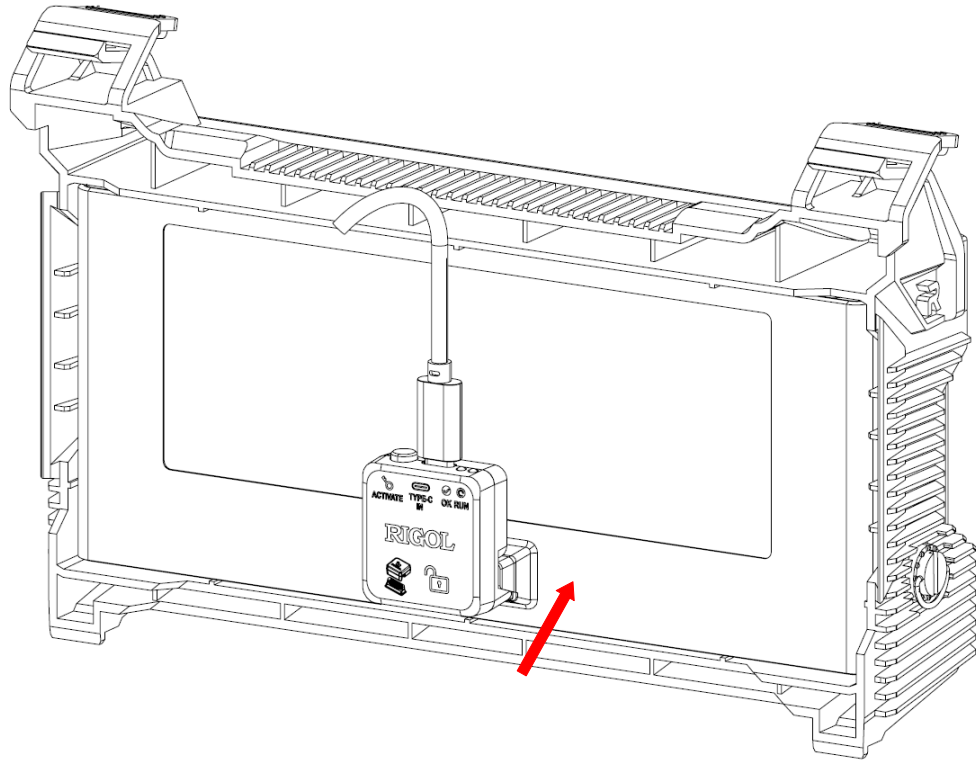

Figure 6.3 Connect the Activator
1. Connect the activator to the battery holder connector correctly as shown in Figure 6.3.
2. Use the USB Type-C cable to connect an adaptor (12 V/3 A) that conforms to the Power Delivery (PD) 3.0 Specification and then apply the AC power source. You can also connect a mobile power source (12 V/3 A).